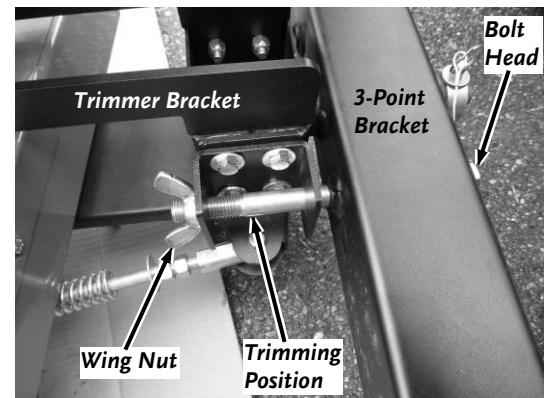

Figure 26
1. Install the Bolt into the right side "holes" location through the 3-Point Bracket and Trimmer Bracket (**Figure 26**).